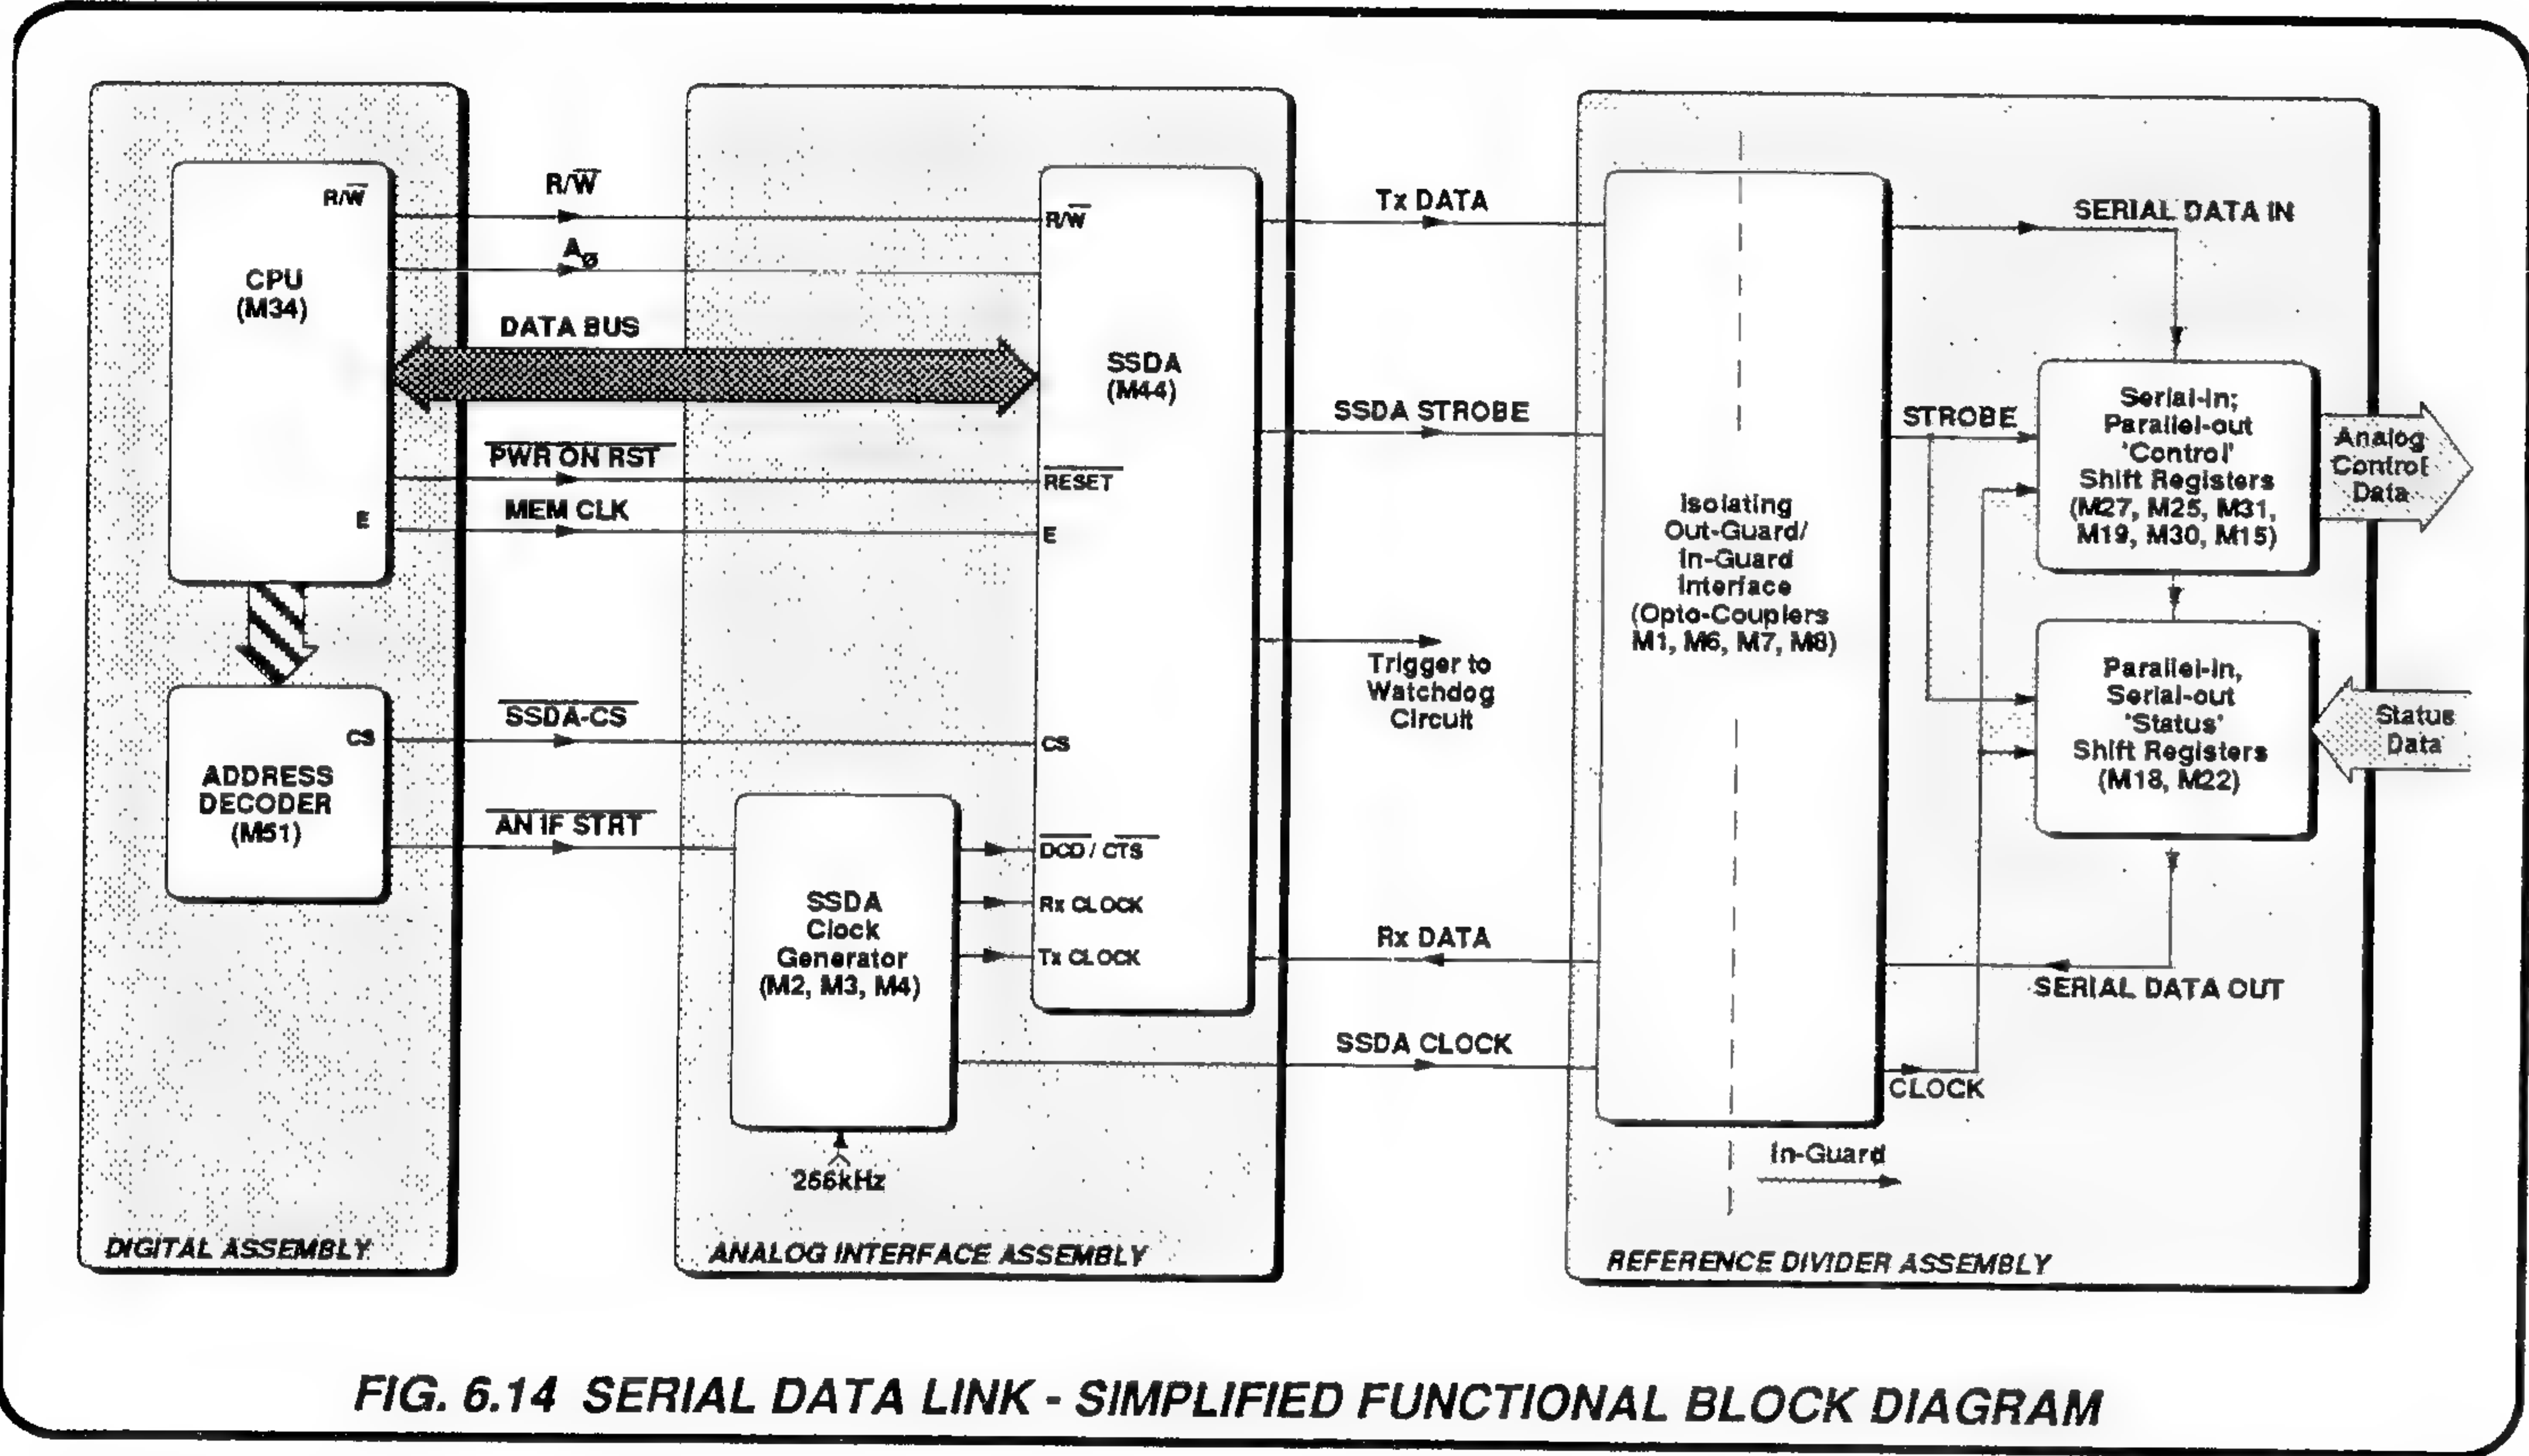

FIG. 6.14 SERIAL DATA LINK - SIMPLIFIED FUNCTIONAL BLOCK DIAGRAM
- Provides a two-way interface via a serial data link between out-guard digital processing and in-guard analog control circuitry on the reference divider assembly (see Fig. 6.14).
Certain selected 'Status' signals, originating in the analog assemblies, are returned to the CPU during the data transfer. Thus, the data link forms a continuous loop, as shown in Fig.6.14.
6.4.2 SERIAL DATA TRANSFER (Fig. 6.14)
6.4.2.1 The Transfer Cycle (Fig. 6.14)